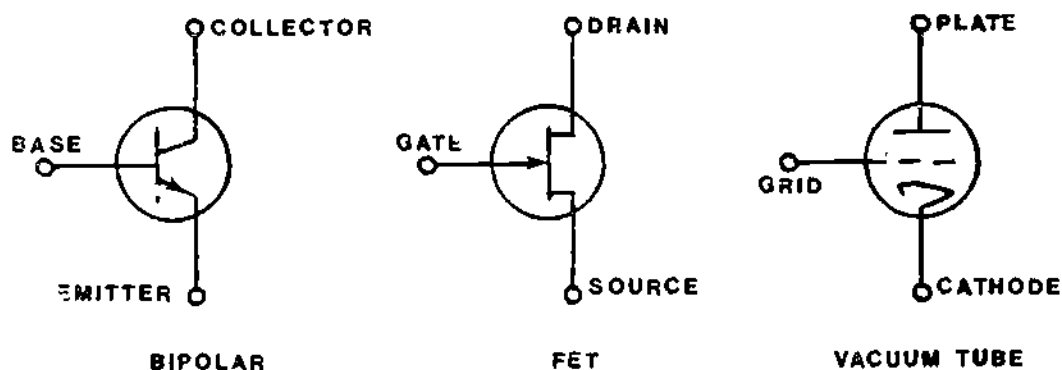

Figure 2
4. First you will learn about JFETs. The schematic symbol for a type of junction FET, or JFET, is compared to the symbols for a two-junction (bipolar) transistor and a vacuum tube in Figure 2.